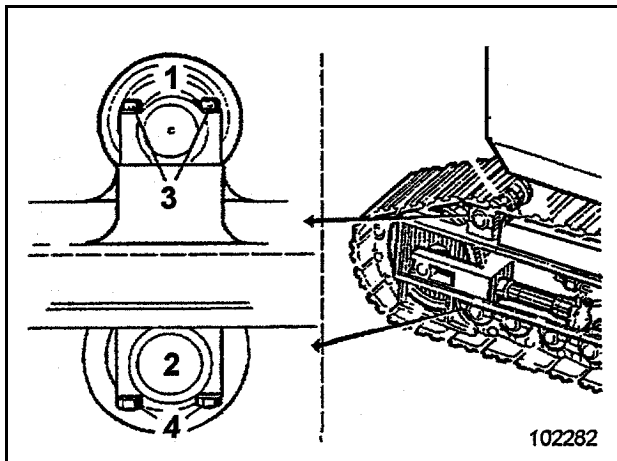

Fig. 3-101:
- Check fastening screws (4 Fig. 3-101:) regularly for tightness.
- Check fastening screws (3, Fig. 3-101:) regularly for tightness.